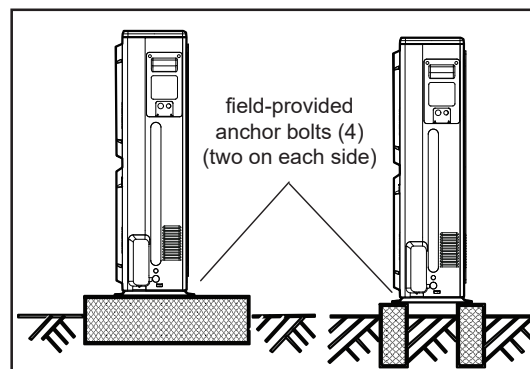

Figure 13-24
-Use lag bolts or equivalent to secure the outdoor unit to the slab or frame. Figure 13-24.